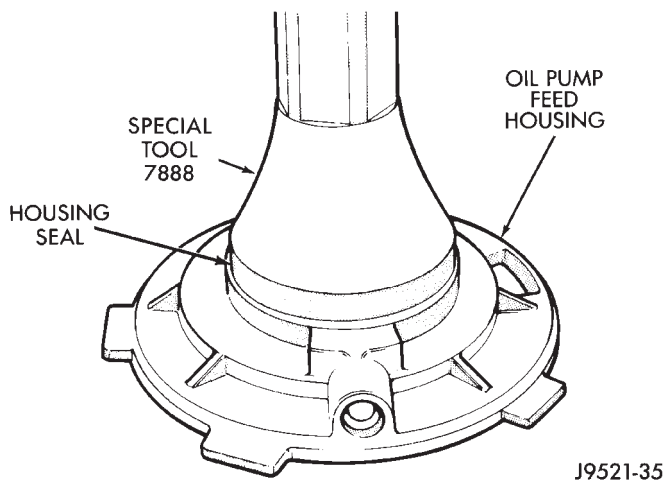

Fig. 53 Install Oil Pump Seal
(11) Remove seal from oil pump with suitable pry tool.
(12) Install new seal in oil pump with Installer 7888 (Fig. 53).